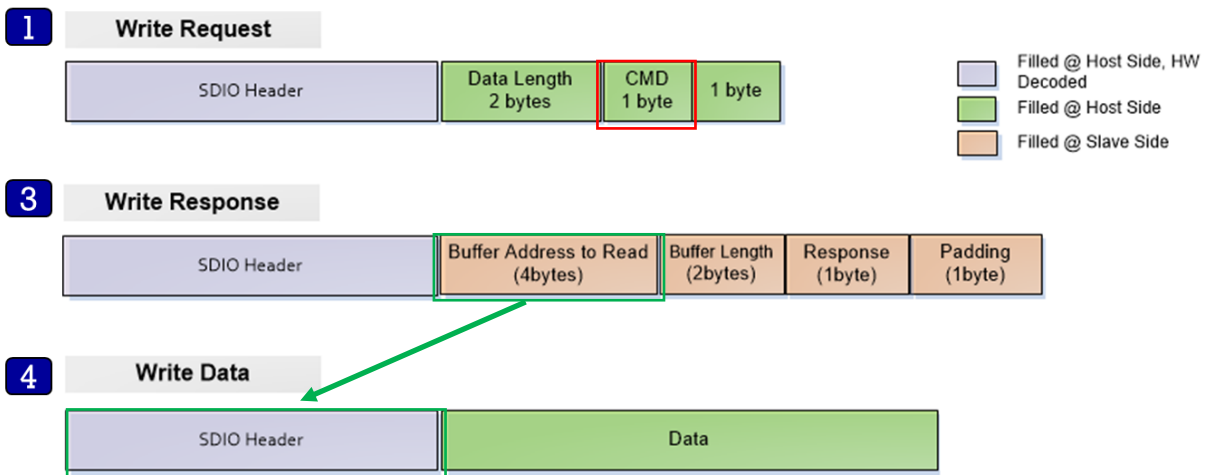

Figure 3: Structure
1. The Host sends a "WRITE_REQ" command (0x80, red rectangle in Figure 3) to the "General Command" address (0x50080254).
4. The Host sends data to address (BUFF_ADDR) which is received from the Slave in the Write Response message.(Green rectangle in Figure 3).